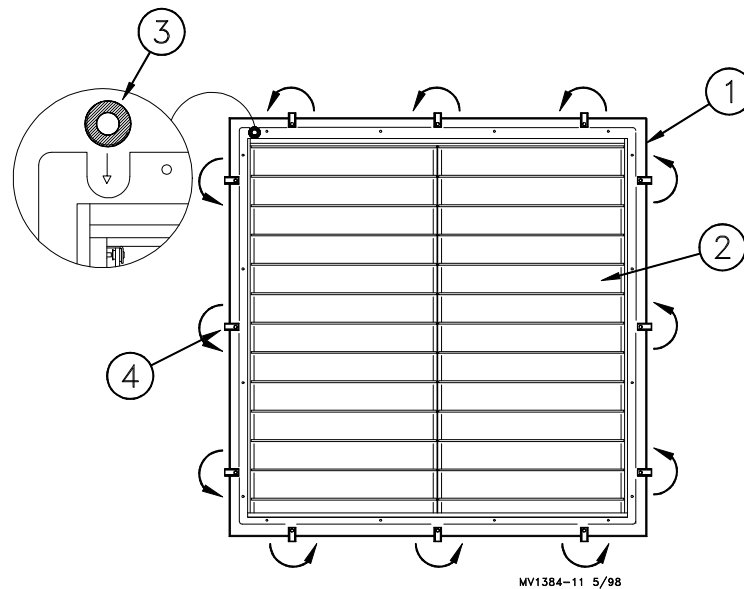

Figure 7. Shutter Installation
**Note:** If an Aluminum Shutter will be installed, route the motor cord through the Rubber Grommet—included in the hardware package see Figure 7.
2. If you have an Aluminum Shutter, route the electrical cord through the notch in the top of the Shutter Frame. Make sure the Grommet is installed correctly in the notch in the Shutter Frame. See Figure 7